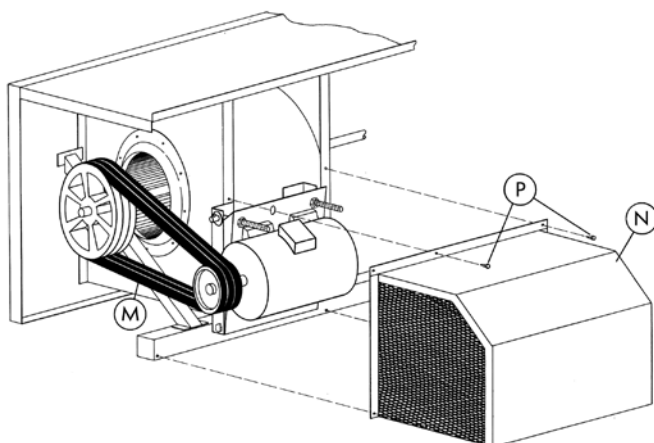

Figure 27 – Motor Guard and Belt Installation
6. Install the belts **M** around the fan sheave and motor sheave (**Figure 27**). Tighten belts by adjusting nuts on J-bolts. Do not over tension the belts. When the belts are properly adjusted, the deflection at the center of the belt should be approximately 1/2" (13 mm) with moderate hand pressure.
9. To install the motor guard **N**, line up the holes and fasten with the self-tapping screws **P** (**Figure 27**). Check to ensure that the motor guard does not make contact with the drive sheave or belts.